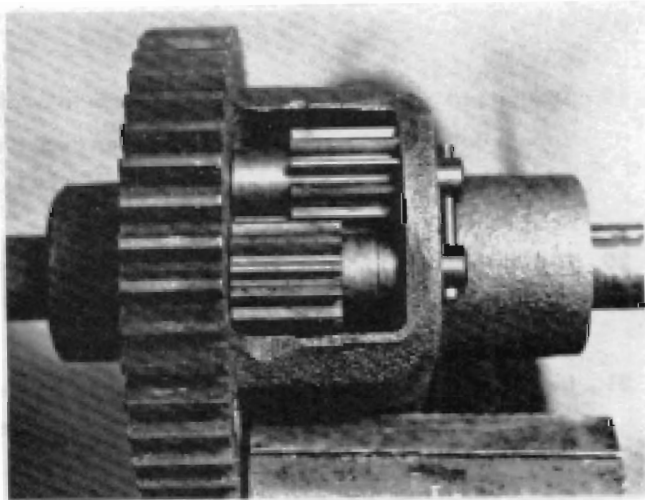

FIGURE 1
1. Drive the roll pins from the end of the differential pins, remove the pins (early models used roll pins at each end of the differential pins) and remove the spider gears. See Figure 1.